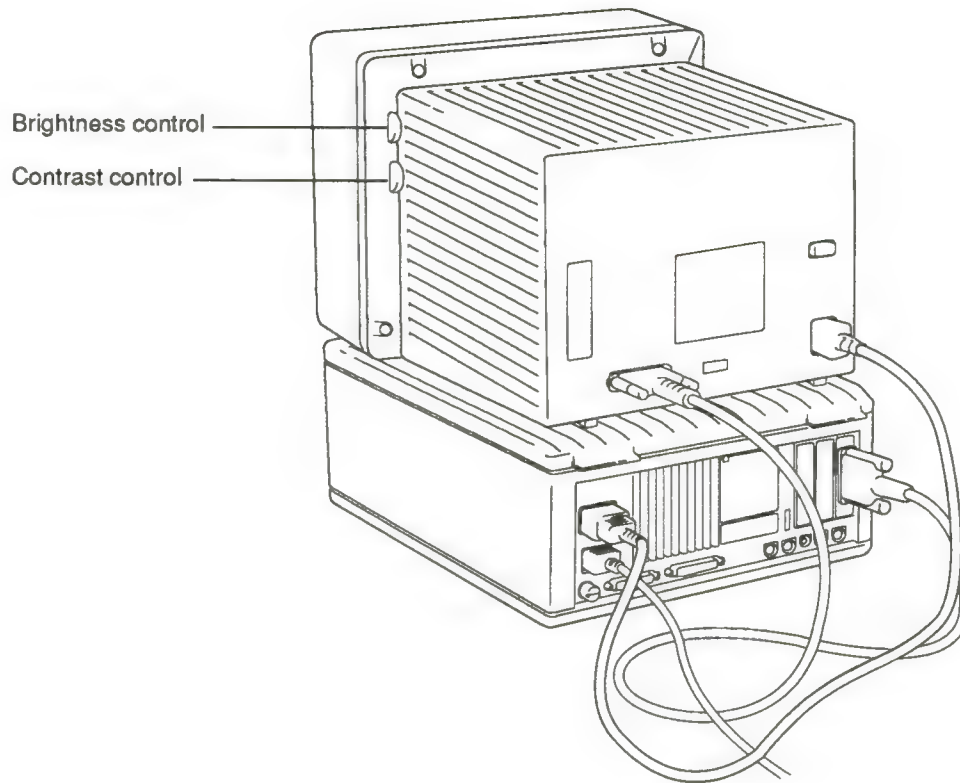

Figure 35. The brightness and contrast controls
20. If you heard the startup chime but do not see anything on the screen, you might need to adjust the brightness or contrast controls, shown in Figure 35.